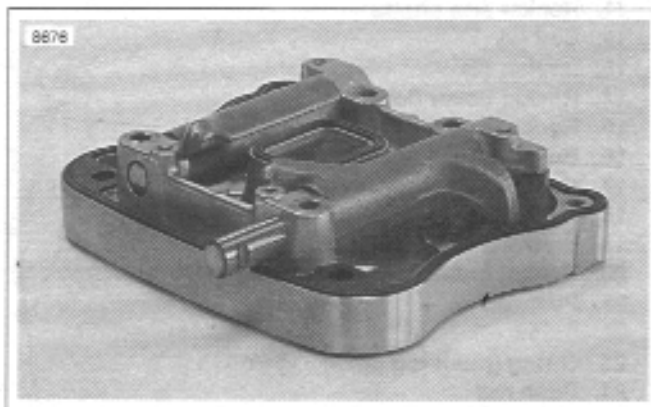

Figure 3-64. Removing Rocker Arm Shafts
8. See Figure 3-64. Remove rocker arm shafts by tapping them out using a hammer and a soft metal punch.